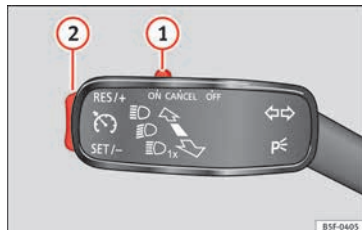

Fig. 48 See position on page 9-10
- Switching on the CCS: Move switch » Fig. 48 ① to **ON**. The system is on. If no speed has been programmed, the system will not control it.
- Activating the CCS: Press button » Fig. 48 ② in the **SET/-** area. The current speed is memorised and controlled.
- Temporarily switching off the CCS: Move switch » Fig. 48 ① to **CANCEL** or push the brake. The cruise control system is switched off temporarily.
- Reactivating the CCS: Press button » Fig. 48 ② in **RES/+**. The memorised speed is saved and controlled again.
- Increasing stored speed during CCS regulation: press button ② in **RES/+**. The vehicle accelerates until the new stored speed.
- Reducing stored speed during CCS regulation: press button ② in **SET/-** to lower the speed by 1 km/h (1 mph). Speed is reduced until reaching the new stored speed.
- Switching off the CCS: Move switch » Fig. 48 ① to **OFF**. The system is disconnected and the memorised speed is deleted.